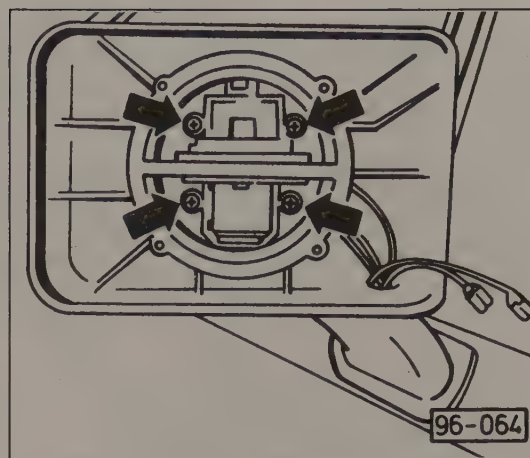

Fig. 5-19. Electric motor mounting screws to be removed.
2. Remove the screws from the motor assembly as shown in Fig. 5-19, then disconnect the electrical connectors and remove the motor.